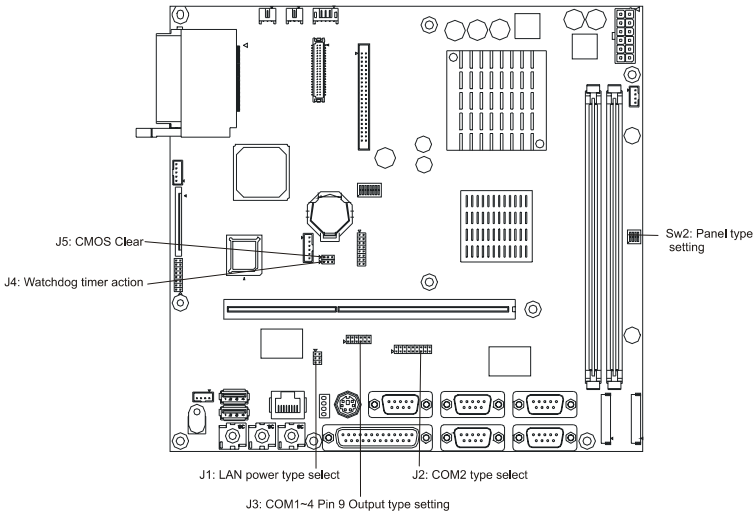

Figure 4.1: Jumpers on the PPC-L126 motherboard
2. There is a metal plate which holds the HDD to the upper left-hand side of the metal shielding case. (See Fig. 4-1.)